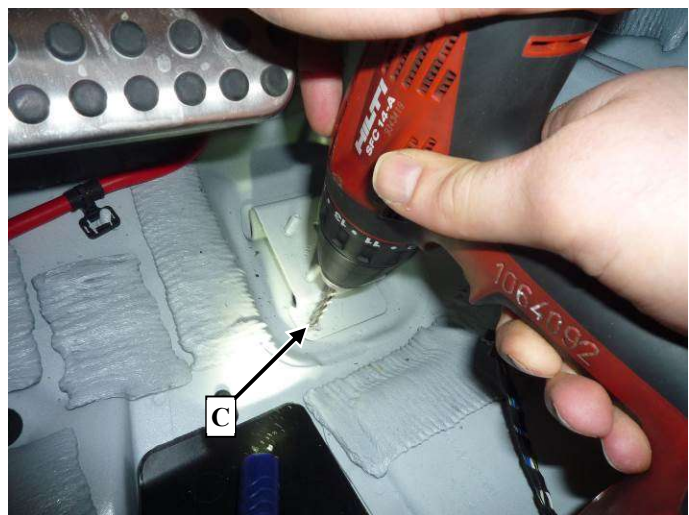
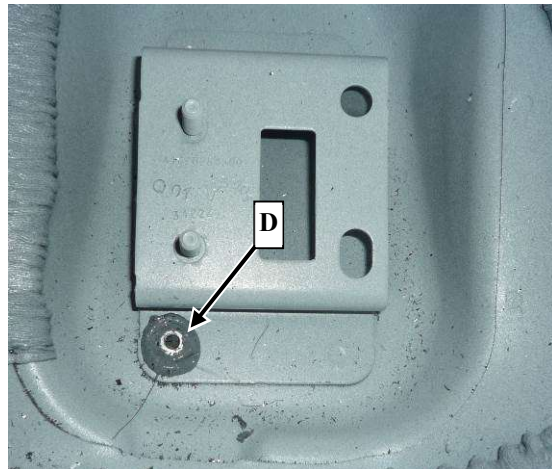

Figure 4
Figure 6
- The left-side (**Figures 4 & 5, C**) must be drilled first and then riveted (**Figure 6, D**).